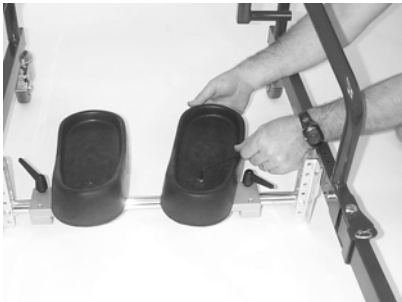

Figure 6
4. The Foot Pads may be adjusted to a toe-in or toe-out setting by loosening the allen head bolt located on the center of the Foot Pad, rotating the Foot Pad inward or outward and securely tightening the bolt (*Figure 6*).